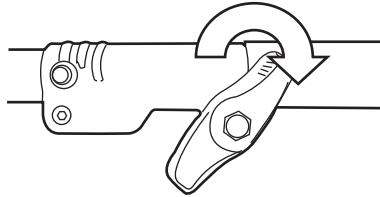

Fig. 9c
3. Secure the connection by tightening the locking knob (A14) clockwise. (See Fig. 9c)